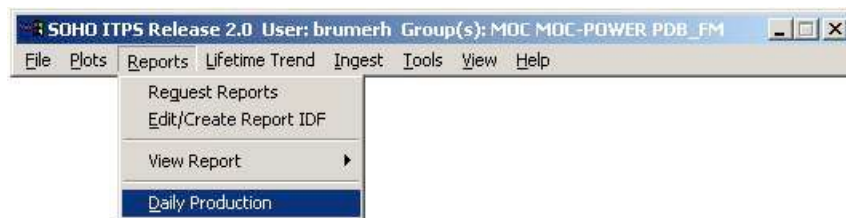

Figure 82: Reports - Daily Production
- Choose “Daily Production” from the “Reports” pull-down menu (see Figure 82).